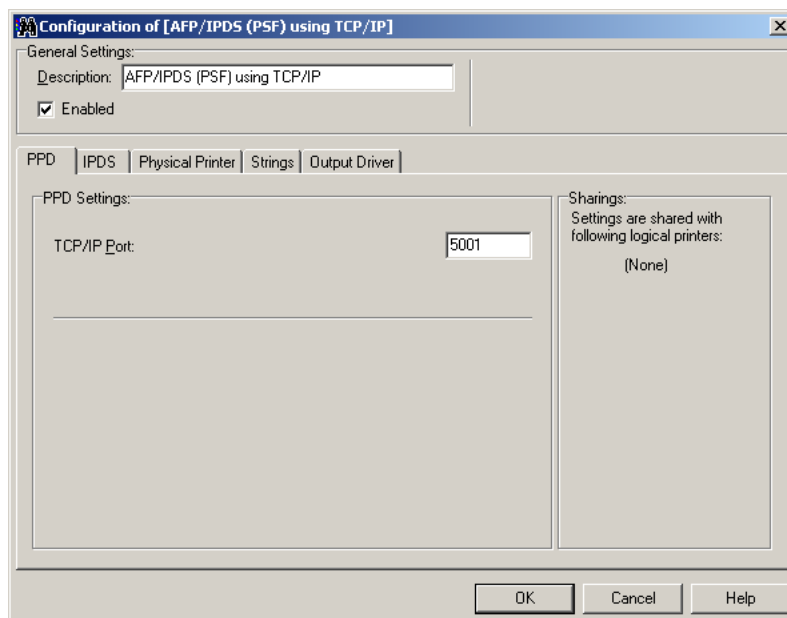

Figure 9
5. Adjust the settings to match your requirements (Figure 9). Select the **Enabled** check box to enable the printer.